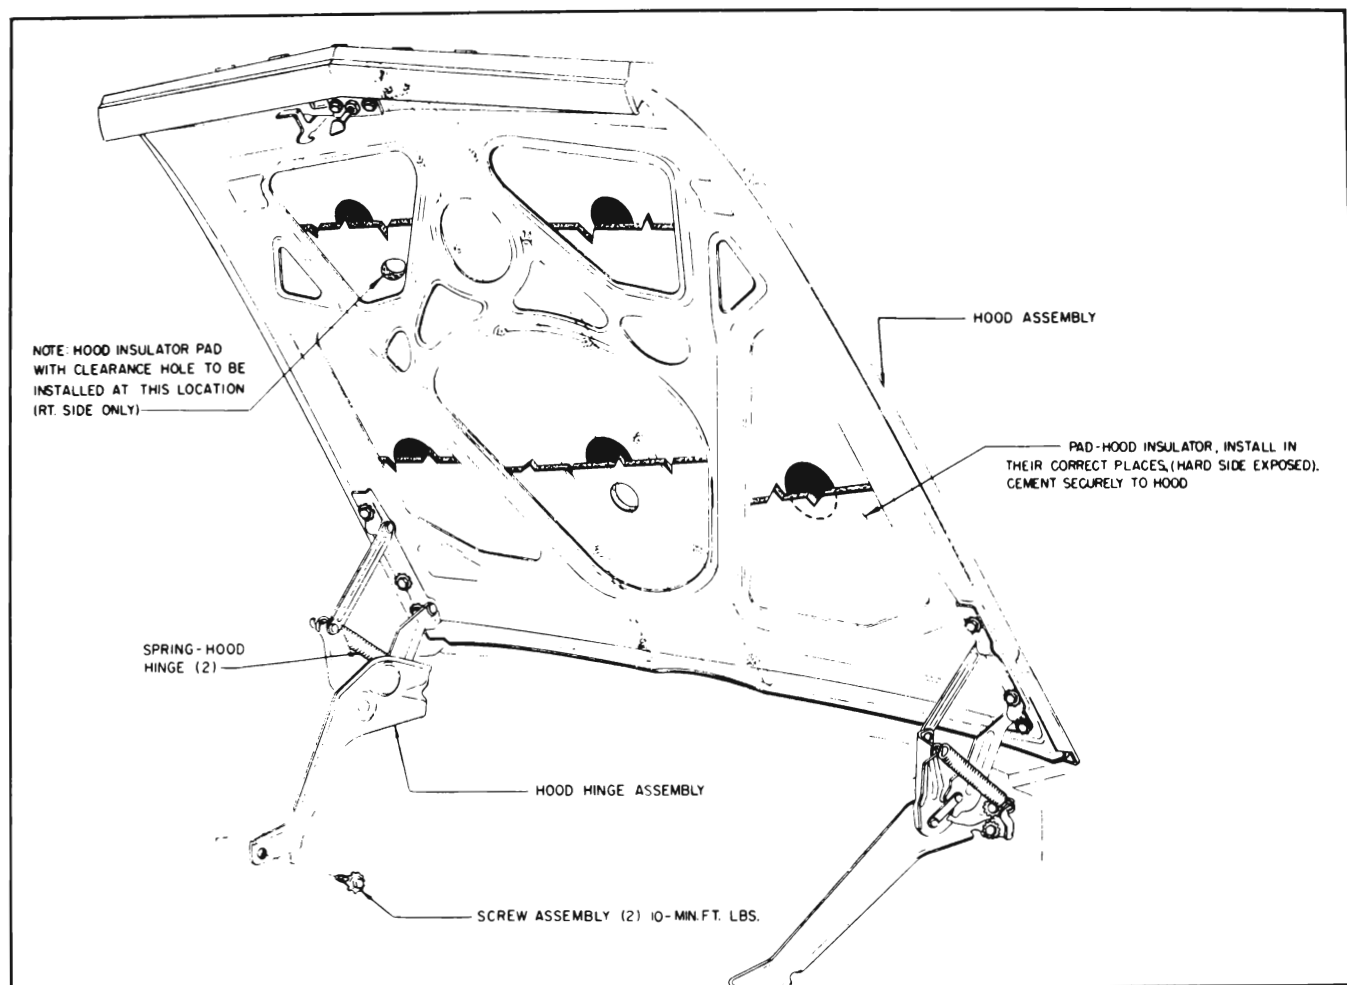
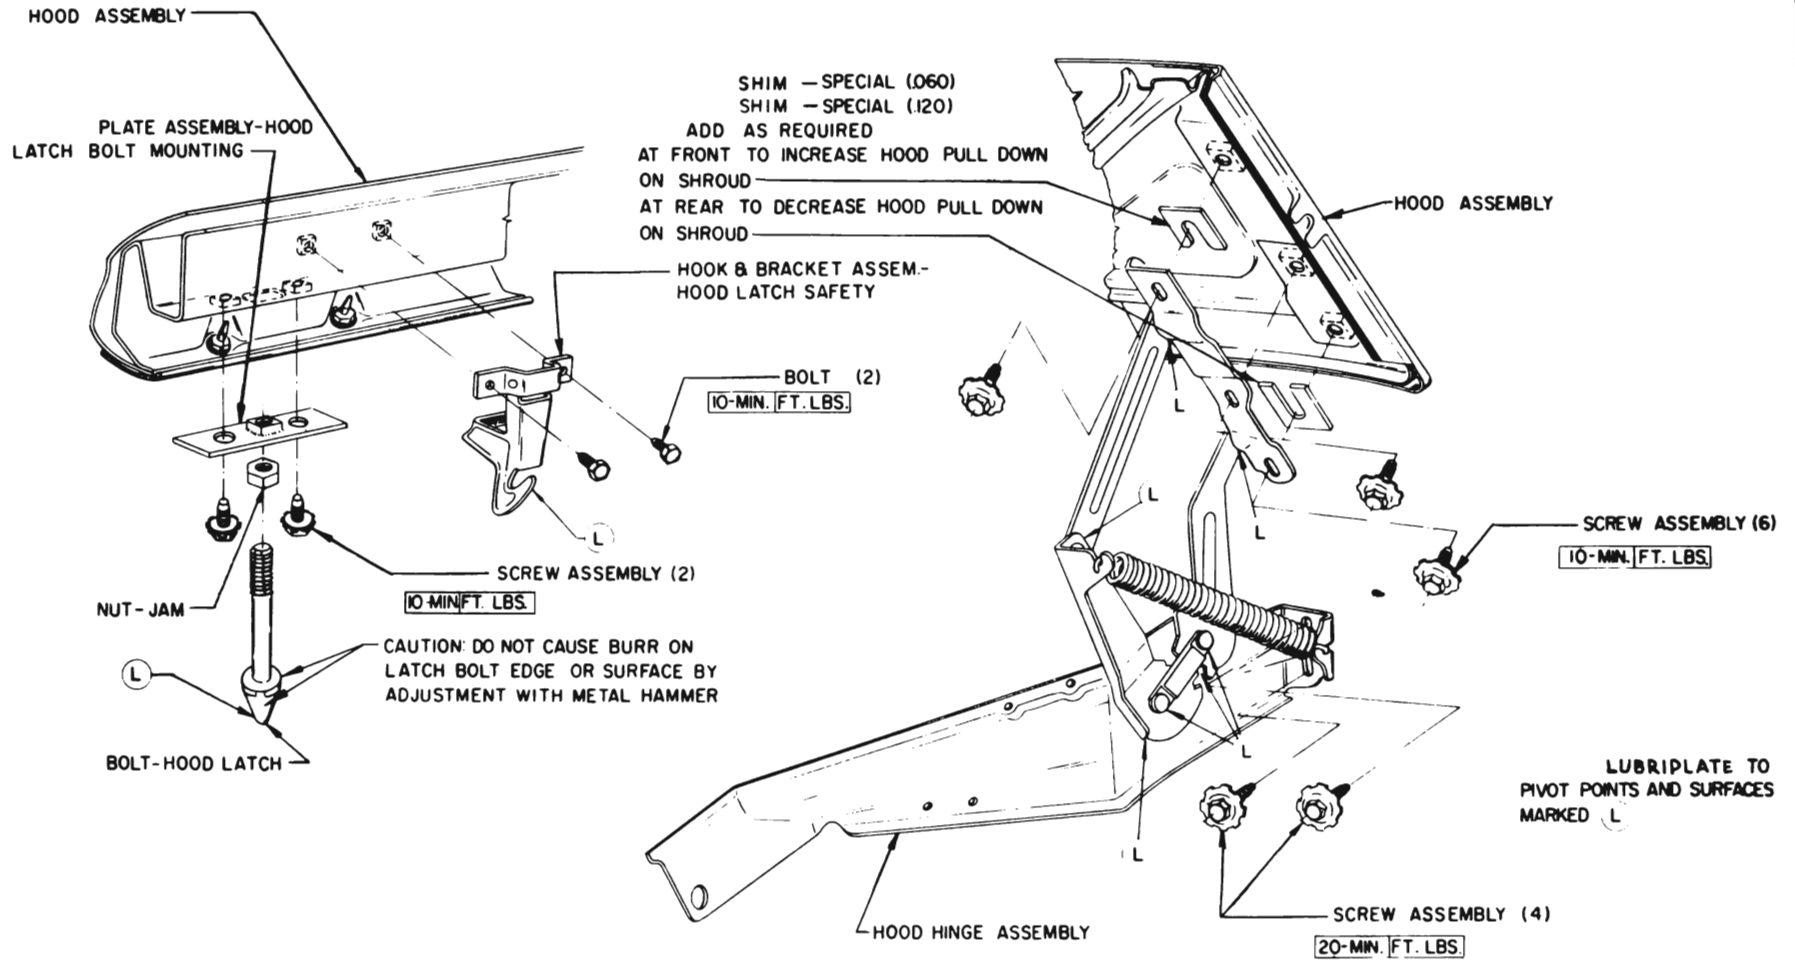

Figure 12-2—Hood & Hood Hinge Assembly
Figure 12-9—Hood and Hood Hinge Assembly
The rear of the hood assembly is attached to the body cowl and fender on each side by hinge assemblies which permit the front of the hood to be raised. A heavy coil spring connected between each hinge assembly assists in raising the hood and holds it in the open position. (See Figure 12-2).
The front of the hood is held down by one dovetail bolt on hood (See Figure 12-9) which engages latch mechanism located on the upper tie bar (See Figure 12-2).
The hood is unlocked by lifting the latch handle located beneath the front center of the grille and then lifting the safety latch which is located beneath the front of the hood. (See Figure 12-9).
To prevent hood panel flutter, the rear end of hood panel must have firm contact with the lacing attached to cowl ledge. The hood may be raised or lowered by adjustment at hinges (See Figure 12-9).
hood. Removing or adding washers will shift rear of hood up or down with respect to hinge. See Figure 12-9.
2. Rear Tension. Too little tension is indicated if the rear hood area flutters. To increase tension, add special washers between the hood and the hinges at the front bolts. See Figure 12-9.
Too much tension is indicated if the rear area of the hood bends as it is closed. To decrease tension, add special washers between the hood and the hinges at the rear bolts. See Figure 12-9.
should be adjusted in and out by means of the screwdriver slot so that it is under considerable tension when the hood is closed and results in a slight hood pop-up when the release is operated. See Figure 12-9. After the correct setting of the latch bolt has been obtained, the jam nut should be tightened.